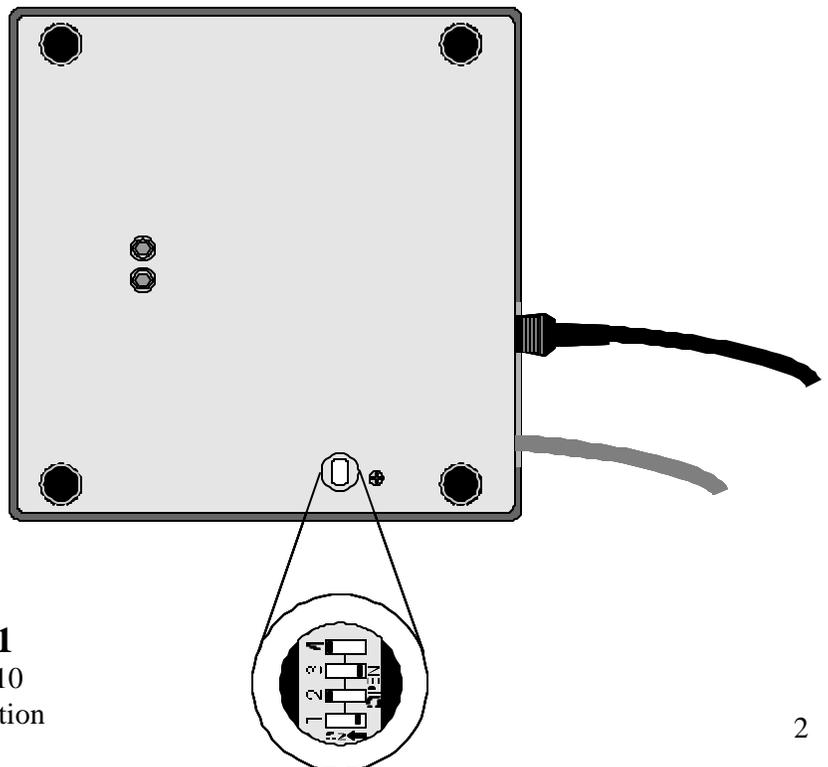
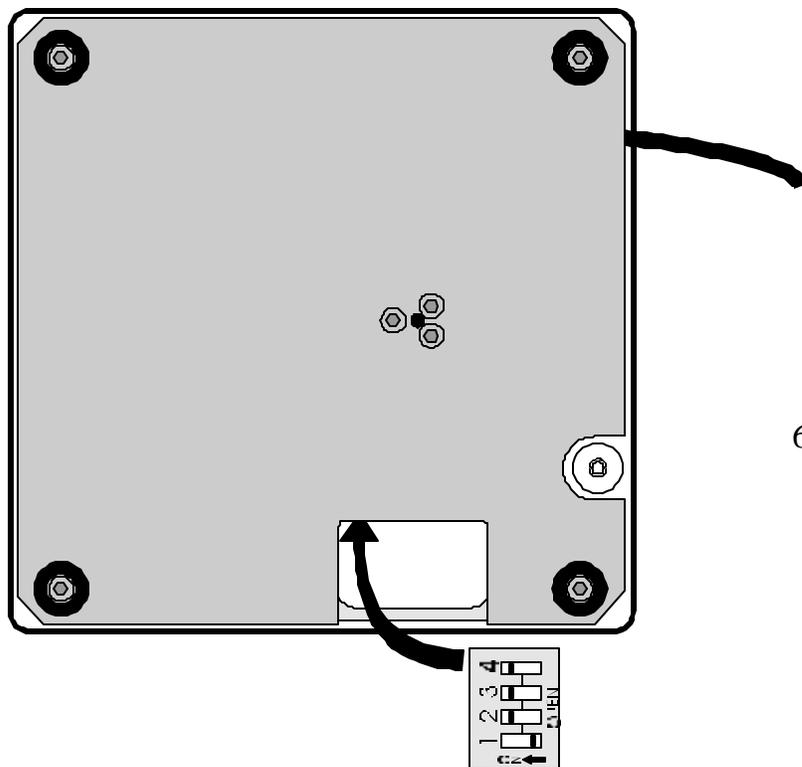

Figure 1
Figure 2
The 6702/6710/6720 powers up in normal weighing mode, ready for weighing operations. You can access the MENU Mode by setting switch 1 shown in figure 1 (Model 6702 & 6710) or figure 2 (Model 6720), to the OPEN or Menu Mode position.
1. From normal weighing mode, move switch 1 to the Menu Mode or OPEN position. (See Figures 1 & 2)